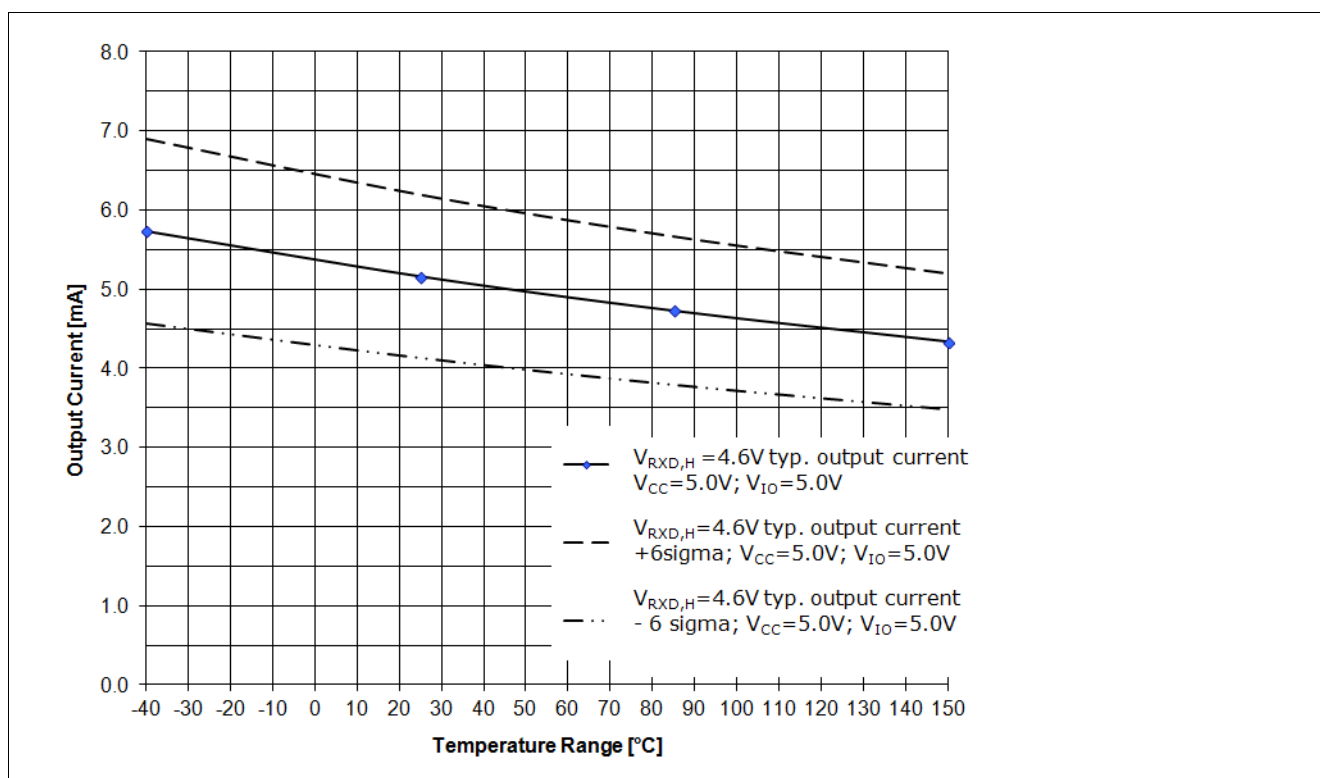
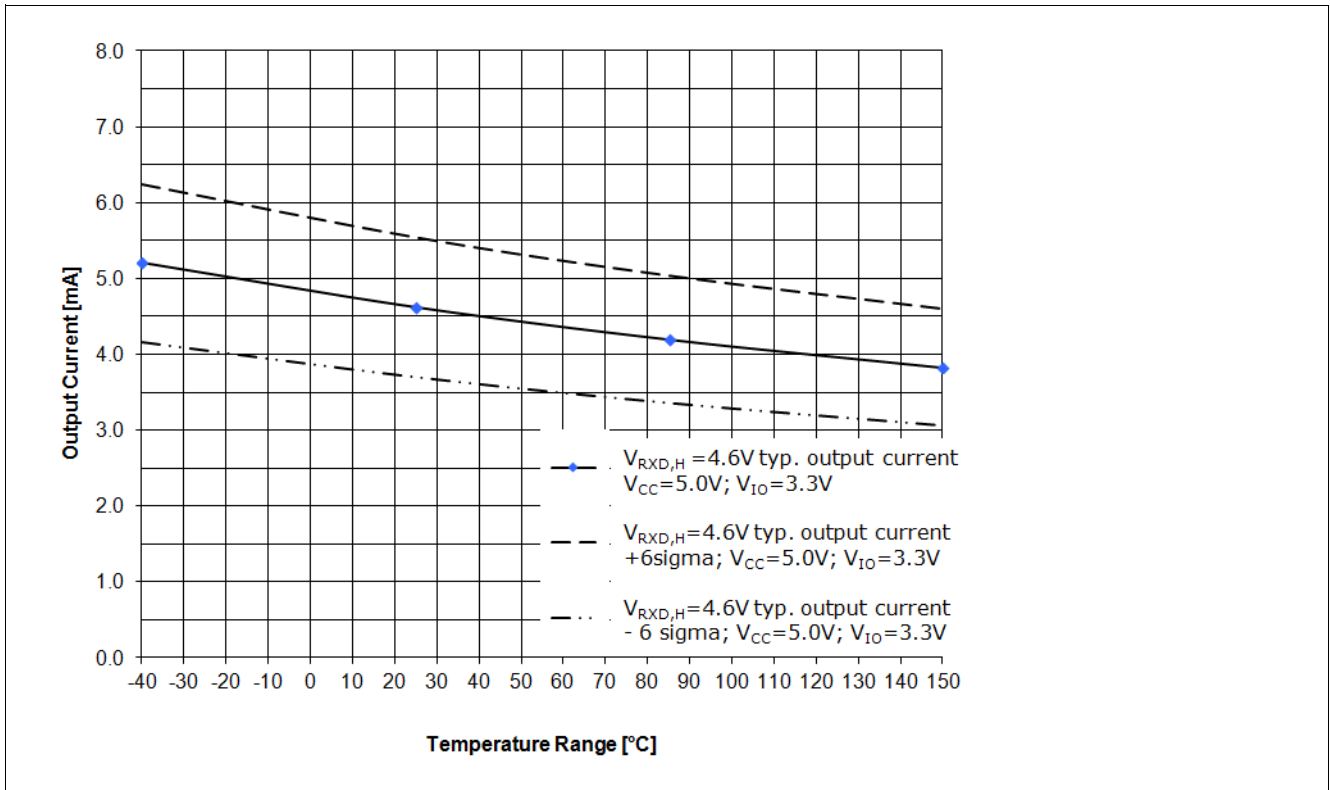

Figure 11 RxD Output driver capability for a logical “High” signal $V_{RxD,H}=4.6\text{ V}$, $V_{CC}=5.0\text{ V}$, $V_{IO}=5.0\text{ V}$ ¹⁾
Figure 12 RxD Output driver capability for a logical “High” signal $V_{\text{RxD,H}}=4.6\text{ V}$, $V_{\text{CC}}=5.0\text{ V}$, $V_{\text{IO}}=3.3\text{ V}^1$
The diagram in Figure 11 shows the output current capability of the RxD output pin depended on the chip temperature T_J at a V_{IO} power supply of 5.0 V. Figure 12 shows the output current capability of the RxD output pin at a V_{IO} power supply of 3.3 V.
- The curve “VRxD,H = 4.6 V; typ. output current; VCC = 5.0 V; VIO =5.0 V;” displays the typical output current at the RxD output pin of the TLE8250GVIO (see Figure 11).
- The curve “VRxD,H = 4.6 V; typ. output current + 6 sigma; VCC = 5.0 V; VIO =5.0 V;” displays the expected maximum value of the output current at the RxD output pin (see Figure 11).
- The curve “VRxD,H = 4.6 V; typ. output current - 6 sigma; VCC = 5.0 V; VIO =5.0 V;” displays the expected minimum value of the output current at the RxD output pin (see Figure 11).
- The curve “VRxD,H = 4.6 V; typ. output current; VCC = 5.0 V; VIO =3.3 V;” displays the typical output current at the RxD output pin of the TLE8250GVIO (see Figure 12).
- The curve “VRxD,H = 4.6 V; typ. output current + 6 sigma; VCC = 5.0 V; VIO =3.3 V;” displays the expected maximum value of the output current at the RxD output pin (see Figure 12).
- The curve “VRxD,H = 4.6 V; typ. output current - 6 sigma; VCC = 5.0 V; VIO =3.3 V;” displays the expected minimum value of the output current at the RxD output pin (see Figure 12).